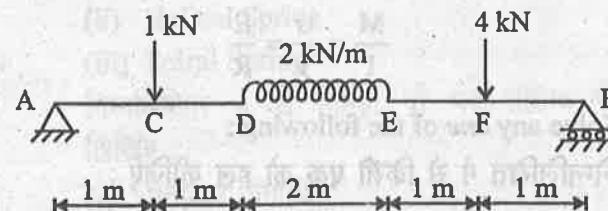

Fig. 2 (a)
- (b) Draw the shear force and bending moment diagram for a cantilever beam loaded as shown in Fig. 2(b).